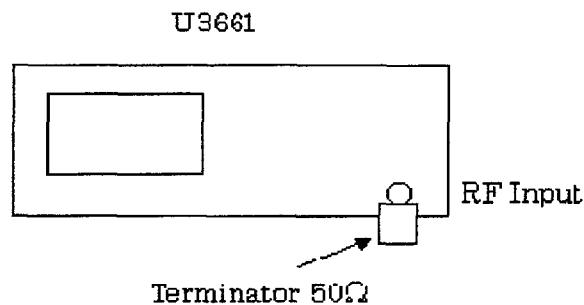

Figure 3-20 Setup of Residual Response Test
2. Connect equipment as shown in Figure 3-20.